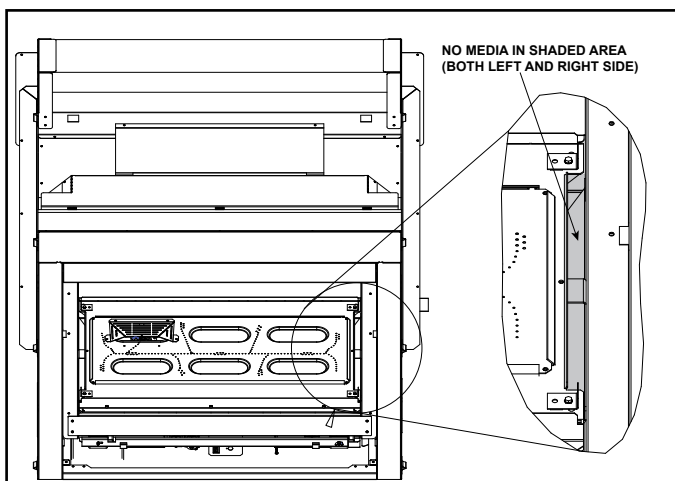

Figure 9.6 No Glass Rock Media in Gap
1. Place glass rock media evenly on base pan and over top of burner. Do not block the open area by the glass refractory. This area must remain open for proper air flow. See Figure 9.6.
NOTICE: Care should be taken to avoid placing glass rock media between the left and right of the media tray and the firebox. Blocking this gap may cause an undesirable flame appearance. See Figure 9.6.